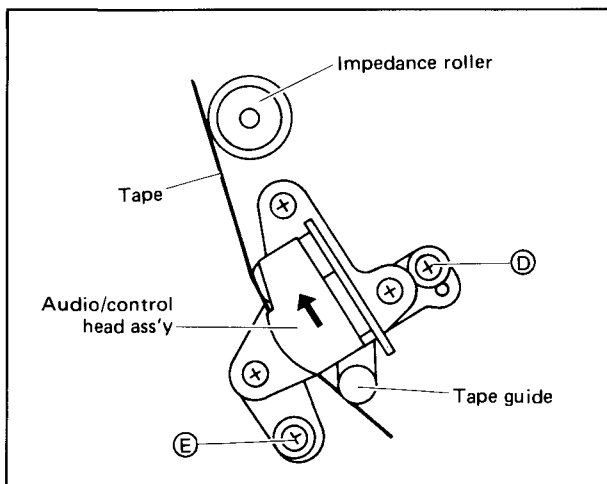

Fig. 4-55
6. Loosen two screws (D) and (E) and slide the audio/control head assembly fully in the direction of the take-up impedance roller as shown in Fig. 4-55.